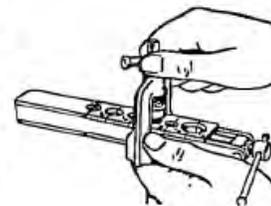

Fig. 4
7. Slide the yoke over the end of the die holder and into position over the tubing to be flared. Note that the yoke slides directly over holder without twisting or turning. (See Fig. 4)